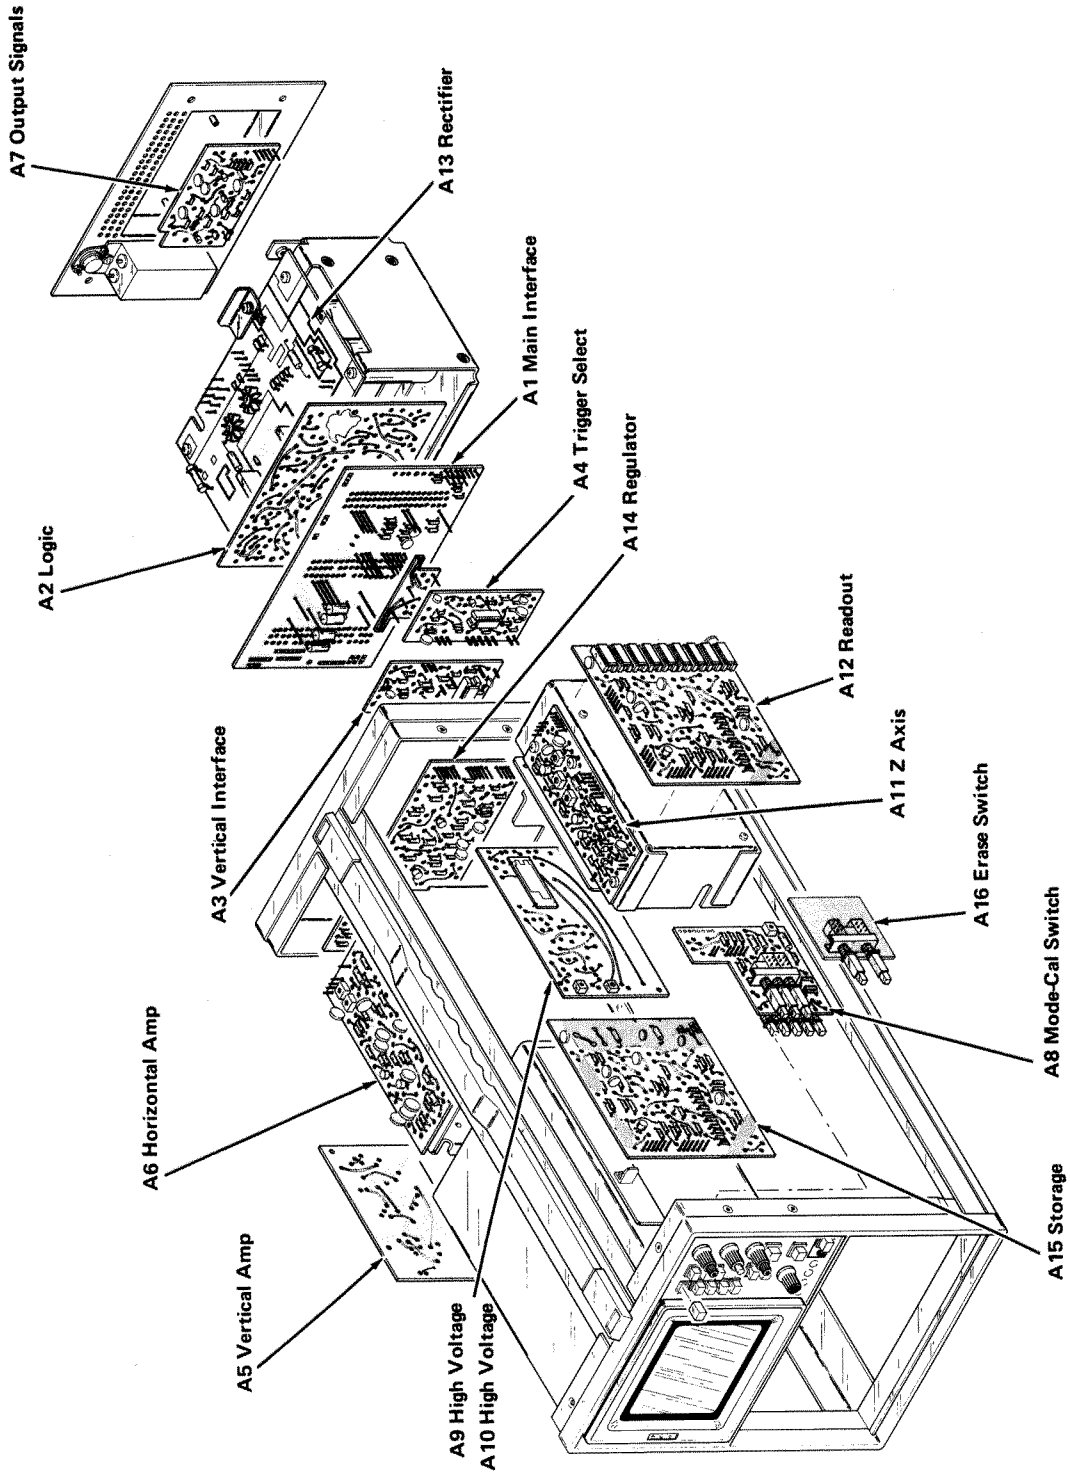
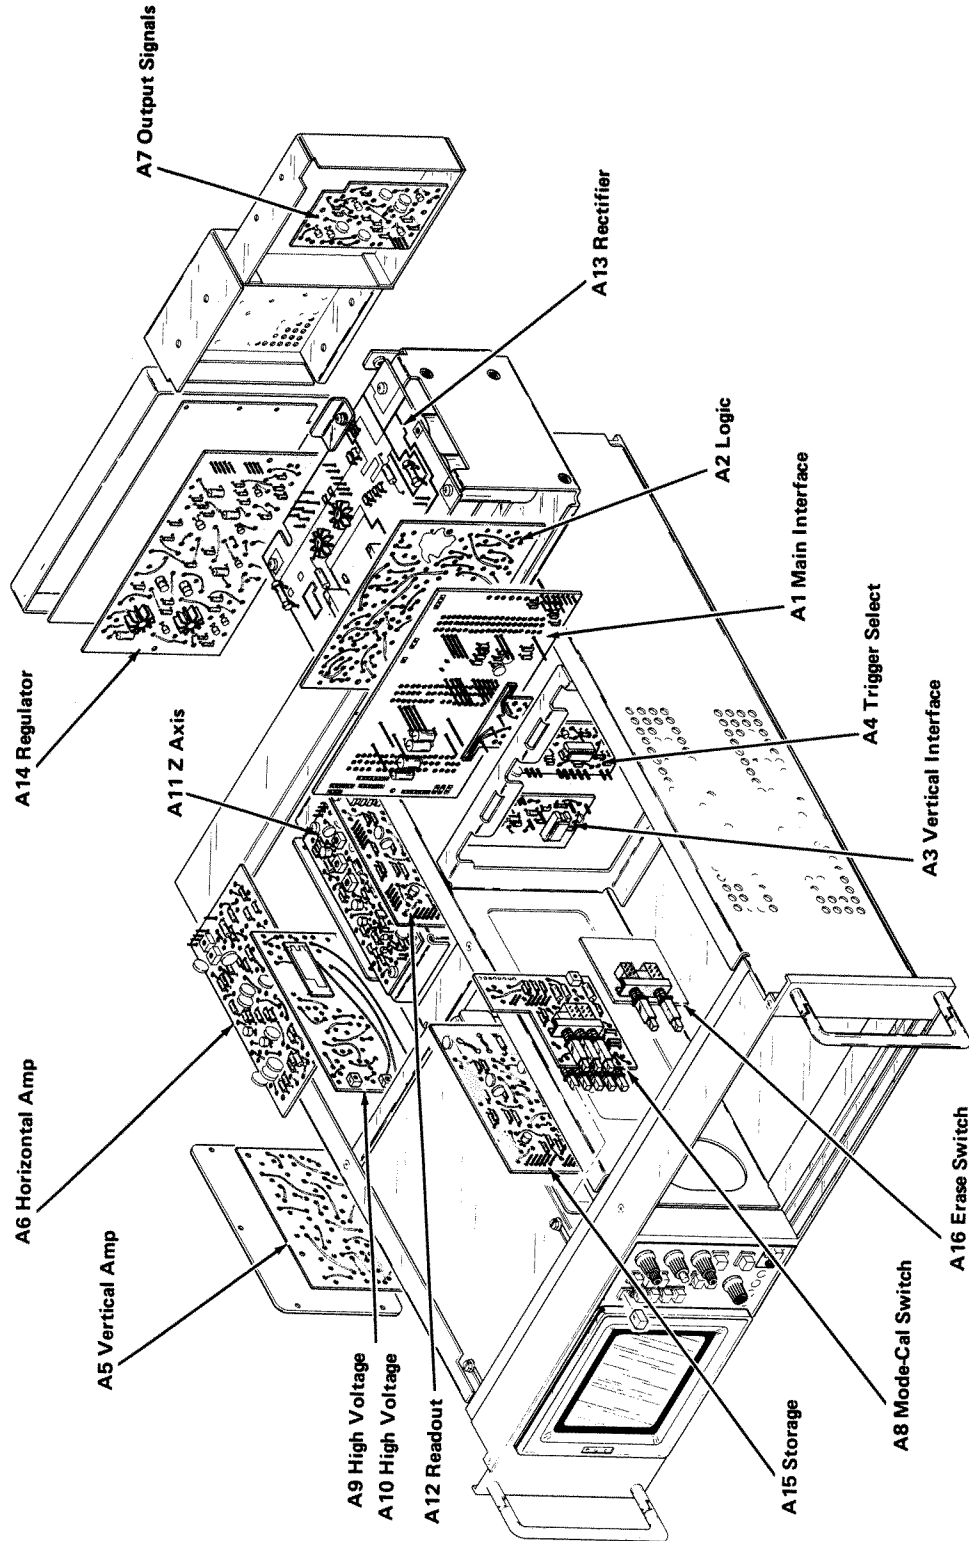

Fig. 4-2. Location of circuit boards in the 7613.
Fig. 4-3. Location of circuit boards in the R7613.
**Circuit Boards.** Fig. 4-2 shows the location of the circuit boards within the 7613; Fig. 4-3 shows the location of circuit boards in the R7613. Pictures of these circuit boards are shown in Figs. 6-1 through 6-11. These pictures are located in the Diagrams section on the back of the page opposite the circuit diagram, to aid the cross-referencing between the diagrams and the circuit-board components. Each electrical component on the boards is identified by its circuit number. The color and location of the interconnecting connectors are also shown. The circuit boards are also outlined on the diagrams with a blue line to show which portions of the circuit are located on a circuit board.
**Resistor Color-Code.** In addition to the brown composition resistors, some metal-film resistors and some wire-wound resistors are used in the 7613. The resistance values of wire-wound resistors are usually printed on the body of the component. The resistance values of composition resistors and metal-film resistors are color-coded on the components with EIA color-code (some metal-film resistors may have the value printed on the body). The color-code is read starting with the stripe nearest the end of the resistor. Composition resistors have four stripes which consist of two significant figures, a multiplier, and a tolerance value (see Fig. 4-2). Metal-film resistors have five stripes consisting of three significant figures, a multiplier, and a tolerance value.